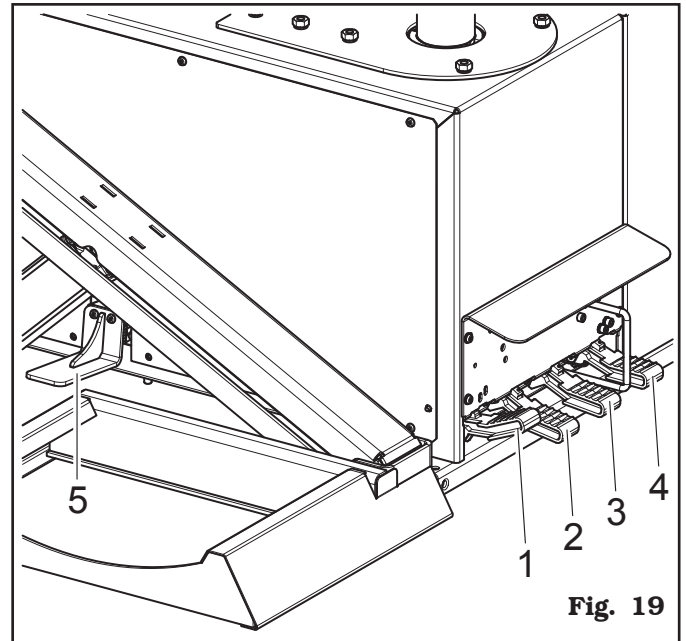
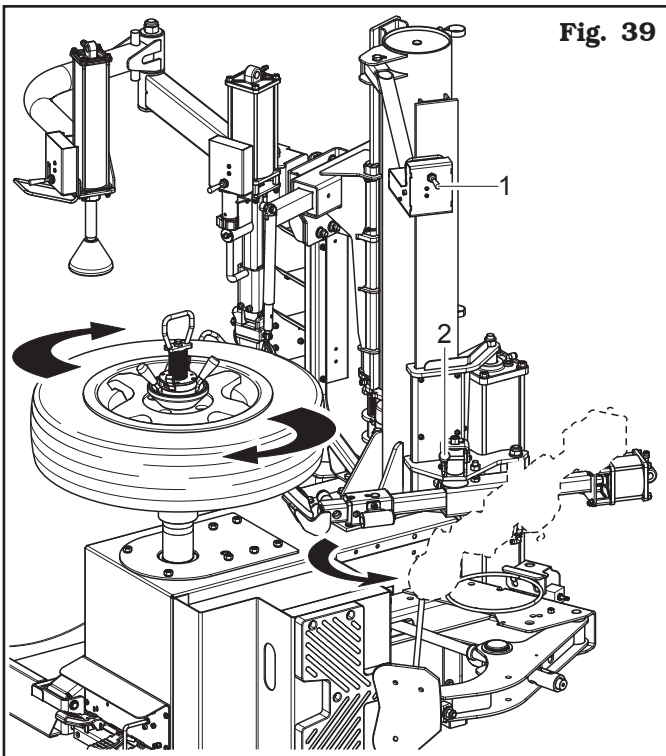

Fig. 19
Fig. 39
The pedal (**Fig. 19 ref. 1**) (only for G8945V.26S - G8945ITV.26S - G8945D.26S - G8945ITD.26S models) has a maintained control position and operates the handling of the wheel lifting device.
The pedal (**Fig. 19 ref. 2**) operates the vertical translation of the tool arm (disengagement).
The pedal (**Fig. 19 ref. 3**) has a maintained control operative position. When pressed down, it operates the bead breaker arm closing. Releasing the pedal, the arm returns to rest position.
The pedal (**Fig. 19 ref. 4**) has two maintained control operative positions. When it is pushed downwards it controls mandrel motor clockwise rotary movement. When the pedal is lifted upwards it operates the opposite movement.
The inflation pedal (**Fig. 19 ref. 5**) has a different function according to the the version present on the machine.
2. Press the pedal (**Fig. 19 ref. 3**) and activate the bead breaker tool to remove the bead. If the bead does not detach the first time, repeat the operation, on different points of the wheel, until it has come away completely.
1. After placing the wheel on the lifting plate (see **Fig. 21**), press the lifting device drive pedal (**Fig. 19 ref. 1**) downwards and bring the wheel to a level where it can be shifted to the mandrel by hand (see **Fig. 22**).
3. Lift the pedal (**Fig. 19 ref. 1**) upwards in order to lower the lifting plate.
5. Lift the lifting plate by pressing again the pedal downwards basso (**Fig. 19 ref. 1**).
3. Activate the clockwise rotation by pressing the pedal (Fig. 19 ref. 4).
7. Only at this point rotate the wheel clockwise pressing the pedal (**Fig. 19 ref. 4**). Keep on rotating the wheel until the operation is completed (see **Fig. 39**).
8. Once bead breaking on the lower part has been terminated, move the roll to rest position lowering the lever (**Fig. 39 ref. 1**) and pressing the lever (**Fig. 39 ref. 2**).